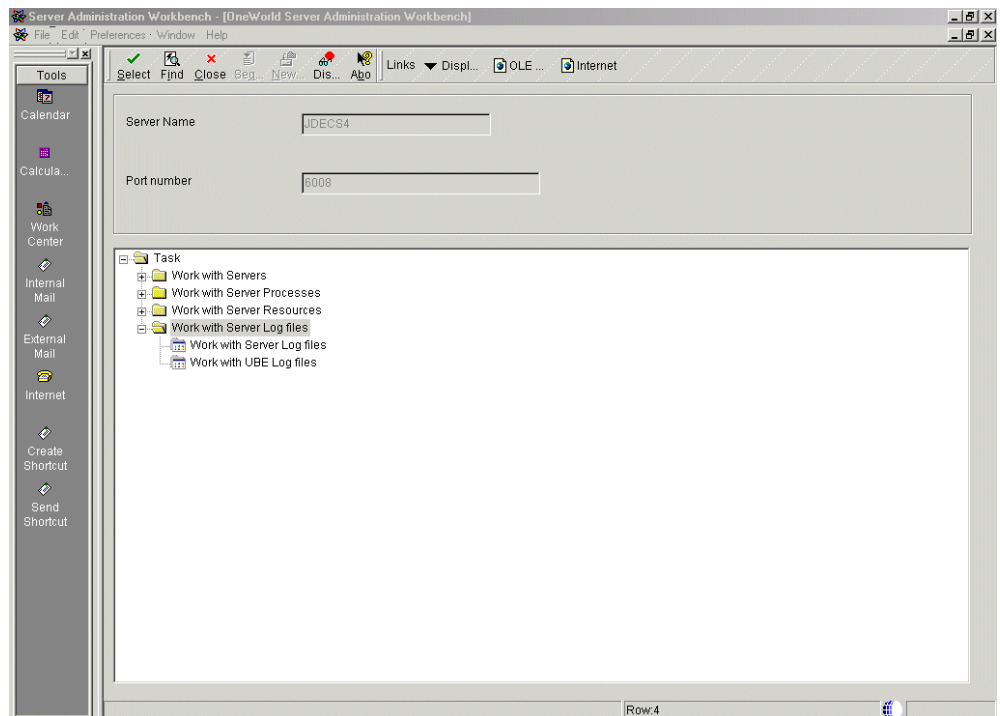

Figure 330. Work with Server log files
4. To look at logs, in the Work with Server Log files folder, double-click the **Work with Server Log files** item to access the display shown in Figure 330.